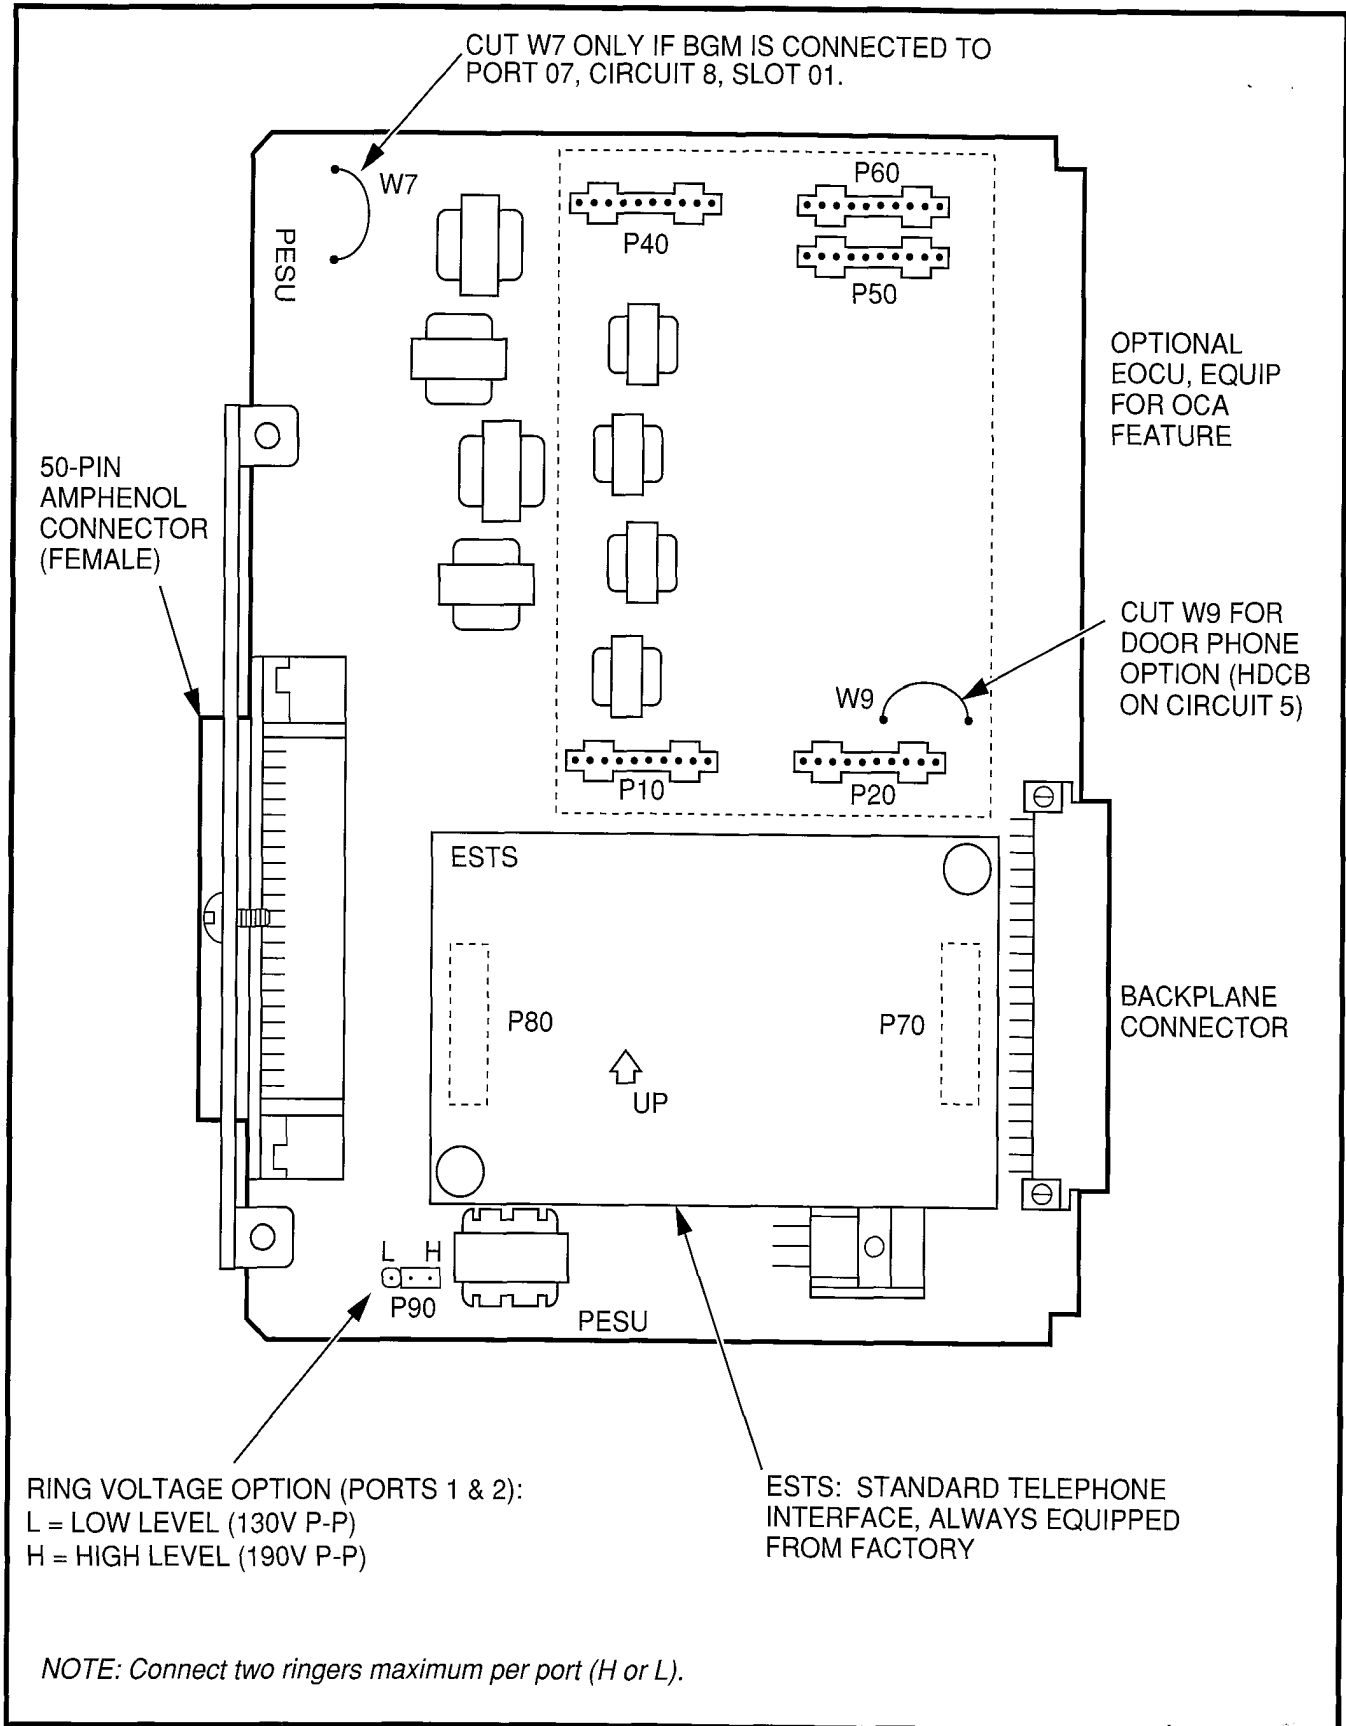

FIGURE 6-7—PESU PCB OPTION LOCATION AND IDENTIFICATION
6.03 The PESU controls and interface connectors are shown in Figure 6-7 and described in Table 6-D.
PESU connectors **P10, P20, P40, P50, and P60** are positioned to allow installation of the EOCU only in the proper position (refer to Figure 6-7).
- 2) Mate the EOCU connectors **J10, J20, J40, J50,** and **J60** with the PESU connectors **P10, P20, P40, P50,** and **P60** (refer to Figure 6-7).
- 2) Ensure that the PESU subunit (ESTS) is securely attached to the PESU (refer to Figure 6-7).